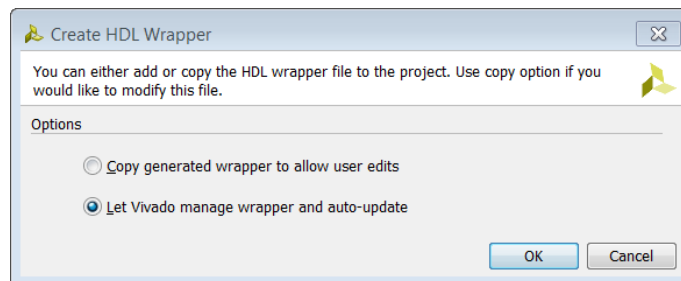

Figure 56: Create HDL Wrapper Dialog Box
18. Keep the default setting, shown in Figure 56, and click **OK**.